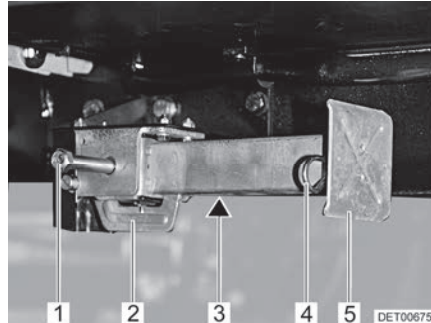

Fig. 29 Steady leg
- Place the socket spanner on the hexagonal nut (Fig. 29,1) and rotate until the steady leg is in a perpendicular downward position.
- If the length of the steady leg can be adjusted, remove the splint (Fig. 29,4) out of the support foot extension (Fig. 29,5).
- Place the socket spanner on the hexagonal nut (Fig. 29,1) and rotate until the steady leg is clear of the ground.
- Push in the support foot extension (Fig. 29,5) and insert the splint (Fig. 29,4) in the drilled hole in the support foot extension.
- Rotate the hexagonal nut (Fig. 29,1) until the steady leg has swung upwards and the guide (Fig. 29,2) has reached the very end of the slot (Fig. 29,3).